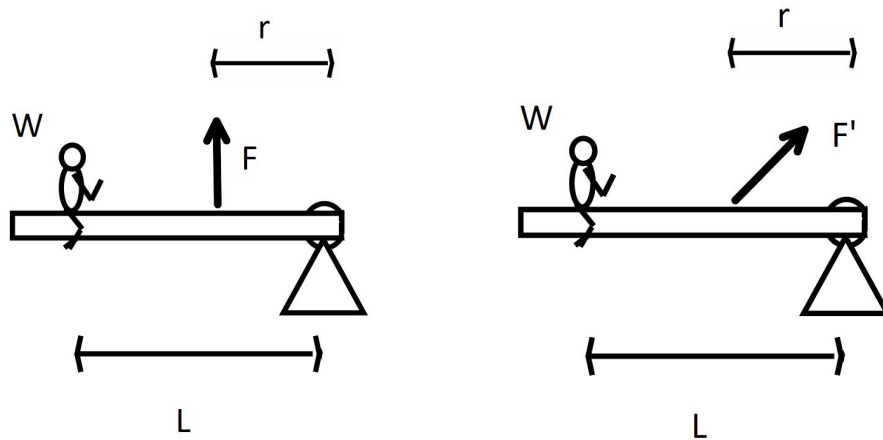

Figure 2: Diagrams for warm up problems 3 (left) and 4 (right).
3. Consider now a slightly modified seesaw setup (pictured in figure 2), with a child of weight W sitting a distance L to the left of the pivot. This time, the seesaw is balanced by the pull from a vertical rope, attached at a distance r to the *left* of the pivot. Assume that $r < L$, meaning the rope is attached between the child and the pivot.
4. Finally, imagine that the rope balancing the seesaw is at an angle, rather than being vertical (pictured in figure 2). Does the magnitude of this new force F' need to be larger, smaller, or the same size as the previous (vertical) force F in order to balance the seesaw?